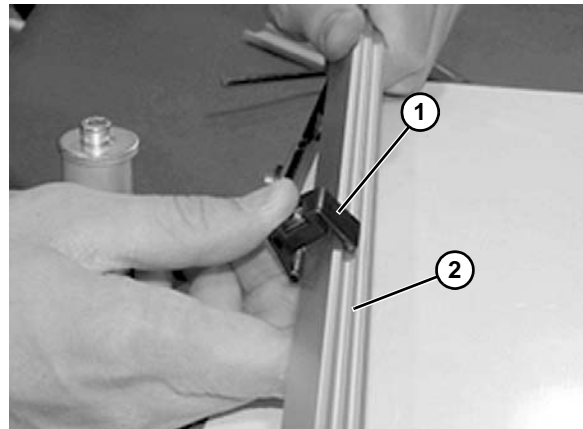

**Figure 31**
3. Loosen screw (**Figure 31, item 1**) on end of shaft (**Figure 31, item 2**) to remove clip (**Figure 32, item 1**).
5. Reassemble clip (**Figure 34, item 1**) and attach to shaft (**Figure 34, item 2**). Tighten screw (**Figure 31, item 1**) on end of shaft.